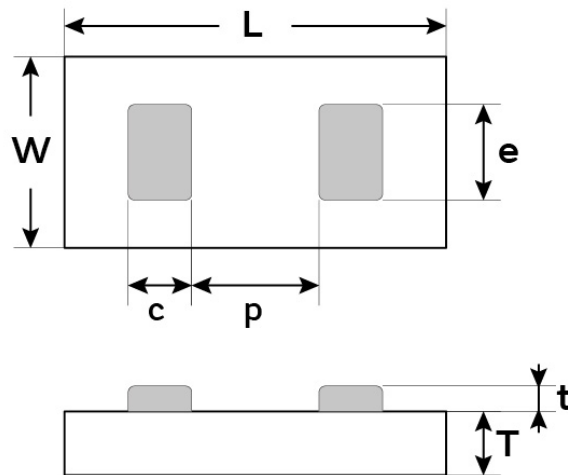

Figure 9 - Package outline drawing
(1) Other Film Frame Carrier are possible on request
(2) SAC = ENIG (0.1µm Au / 5µm Ni) + SAC305 type 6 or ENIG 0.1µm Au / 5µm Ni
(3) Missing capacitors can reach 0.5%
(4) Refer to Figure 9